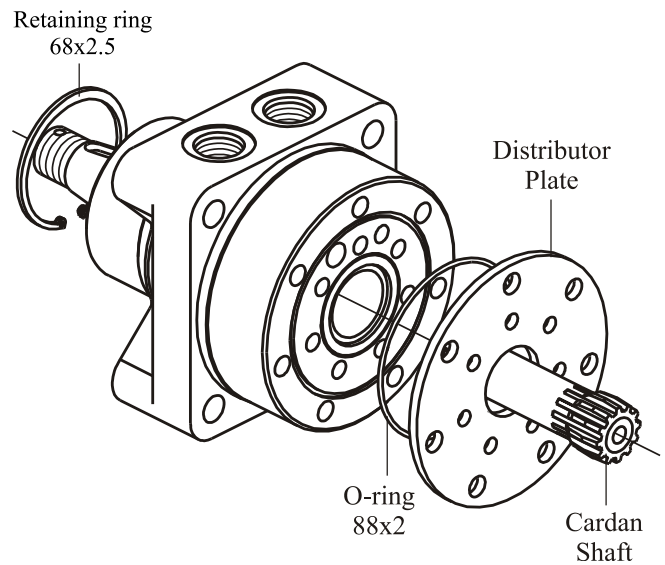

Fig.3
5. Remove cardan shaft (see Figure 3).
9. Remove retaining ring from front part of the housing (see Figure 3).